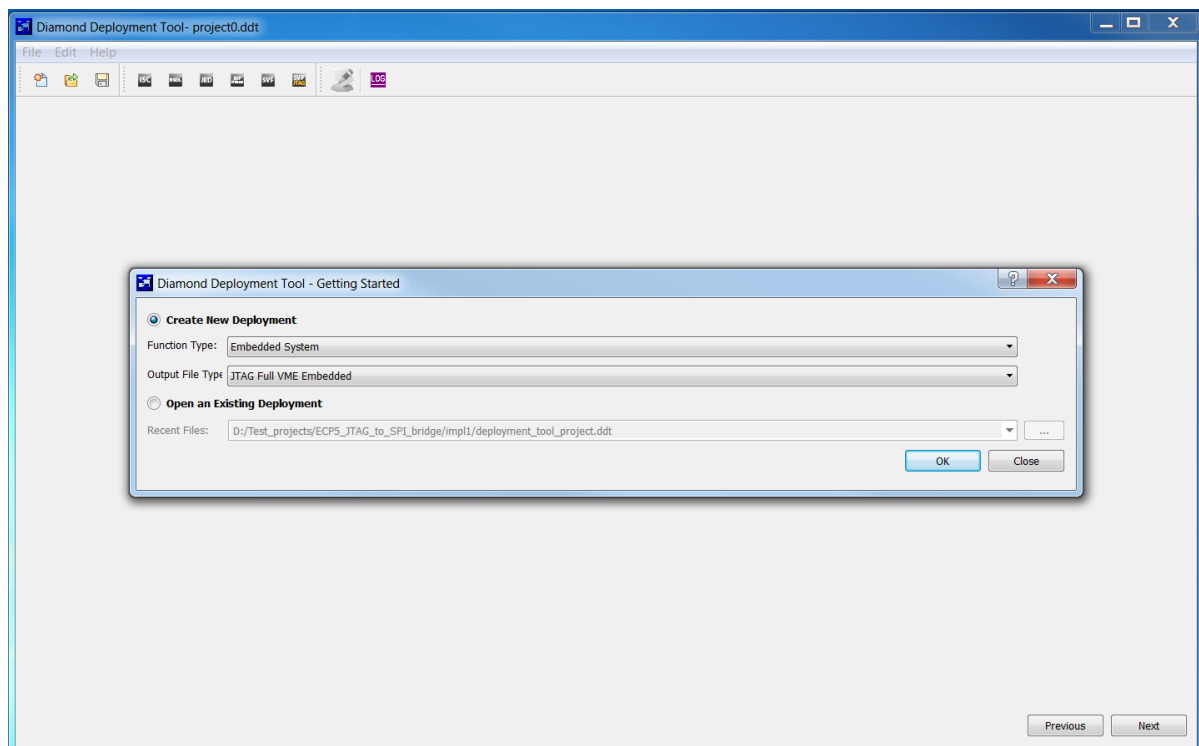

Figure 7.1. Deployment Tool – Getting Started Dialog Box
2. In the **Getting Started** dialog box, shown in Figure 7.1, select **Create New Deployment**. Select the following options and click **OK**.